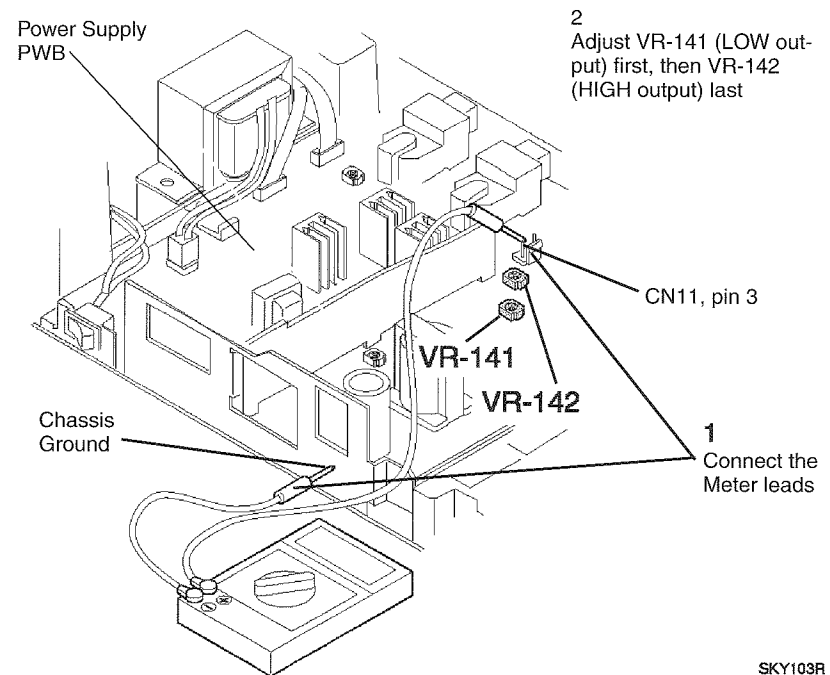

Figure 1 Adjusting the Grid Bias Voltage
2. ( Figure 1): Connect the positive lead to connector pin CN11-3